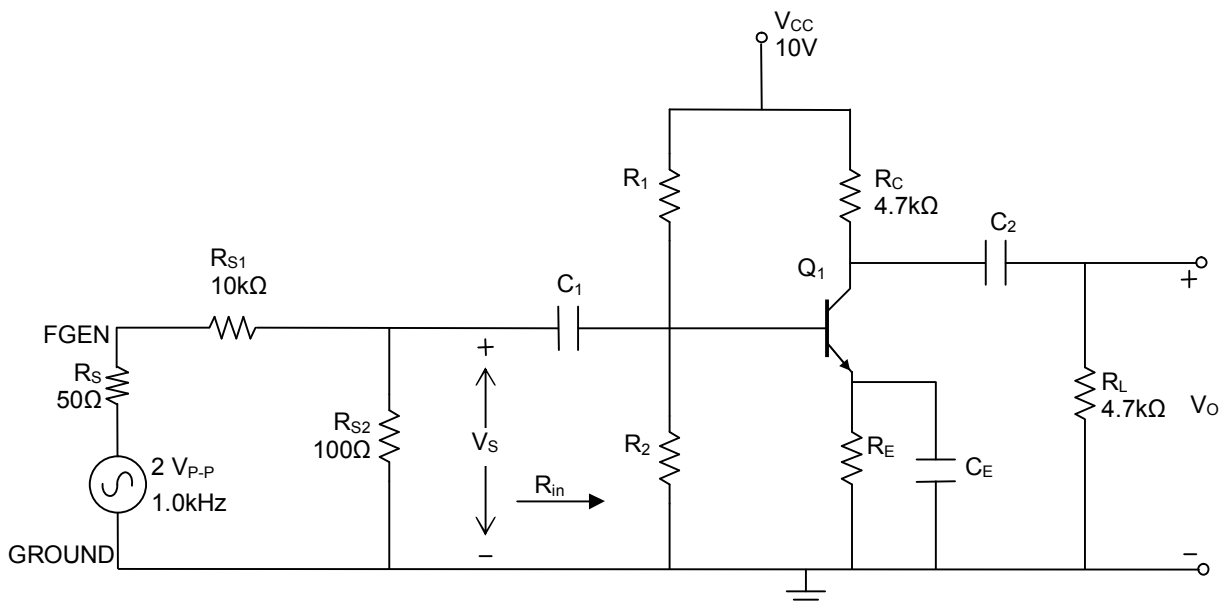

Figure 9.1: Common-emitter Amplifier
2. Design a single stage, BJT CE amplifier with the specifications given below. Note that the signal source comprises the function generator and the voltage attenuator (see Figure 9.1). The output impedance ( $R_s$ ) of the function generator is  $50\Omega$ . Your amplifier should also meet the following design specifications:
1. In Figure 9.1, the resistor  $R_S$ , represents the  $50\Omega$  internal impedance of the signal generator. The two resistors,  $R_{S1}$  and  $R_{S2}$ , are a voltage divider, external to the signal generator. These two resistors are chosen to keep the input signal to the amplifier low enough to insure that the output wave shape is not distorted. Use an input signal of  $0.02V_{P-P}$  at the base of the transistor. To get this signal, you must use a  $2V_{P-P}$  output from FGGEN.
2. Complete your circuit as shown in Figure 9.1, using  $R_{S1}$ ,  $R_{S2}$ ,  $R_L$ , and capacitors (use  $22\mu F$  or  $47\mu F$ ).  $R_S$  is an internal resistance already in the FGGEN.